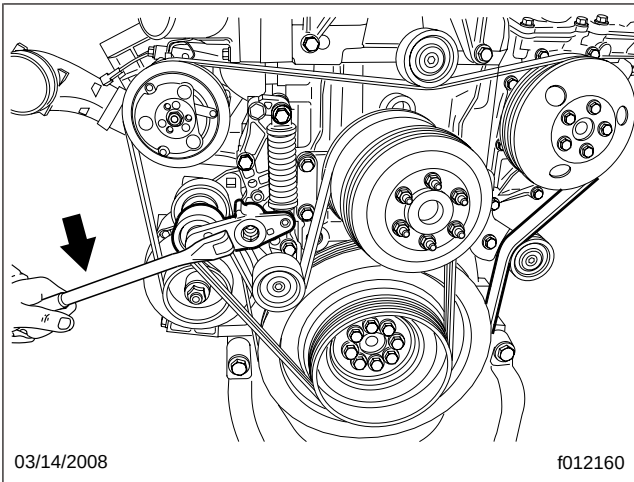

Fig. 3, Releasing the Front Tensioner
5. Insert a 1/2-inch breaker bar, or 1/2-inch ratchet into the square hole in the idler arm of the front belt tensioner (grooved pulley), then smoothly rotate it downward (counterclockwise) until you feel resistance. See Fig. 3.